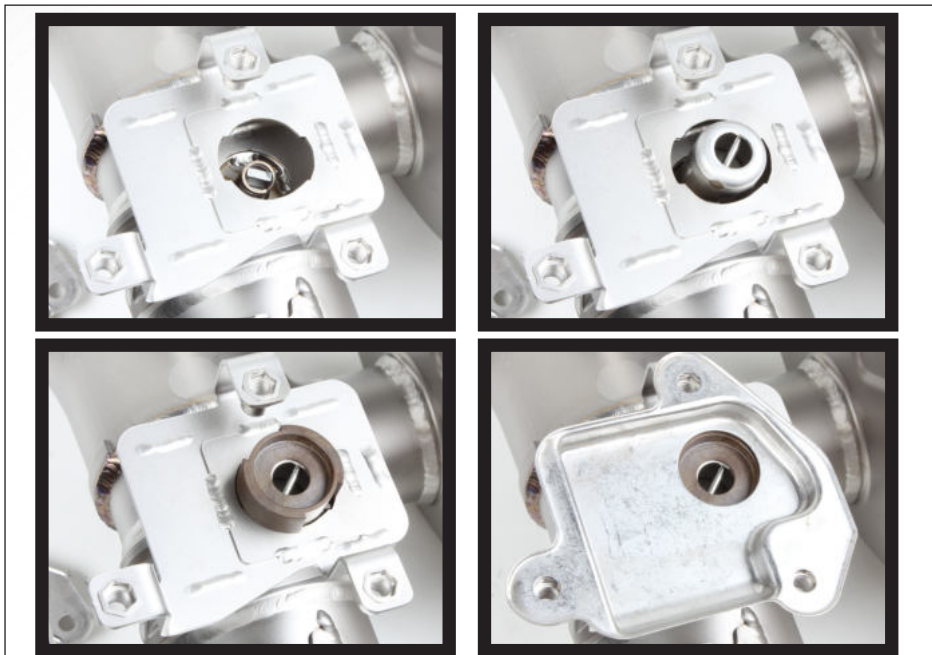

Figure 8
1. Assemble the stock exhaust valve actuators and muffler rubber brackets (using bolts, nuts and washers from Akrapovič installation kit) onto the Akrapovič muffler, as shown (Figure 8, 9, 10).